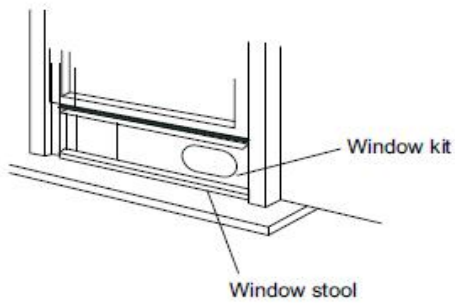

Fig.12
4. Close the window on the window slide bars. For long term installation, you may screw the window kit into your window frame. Fig. 12.